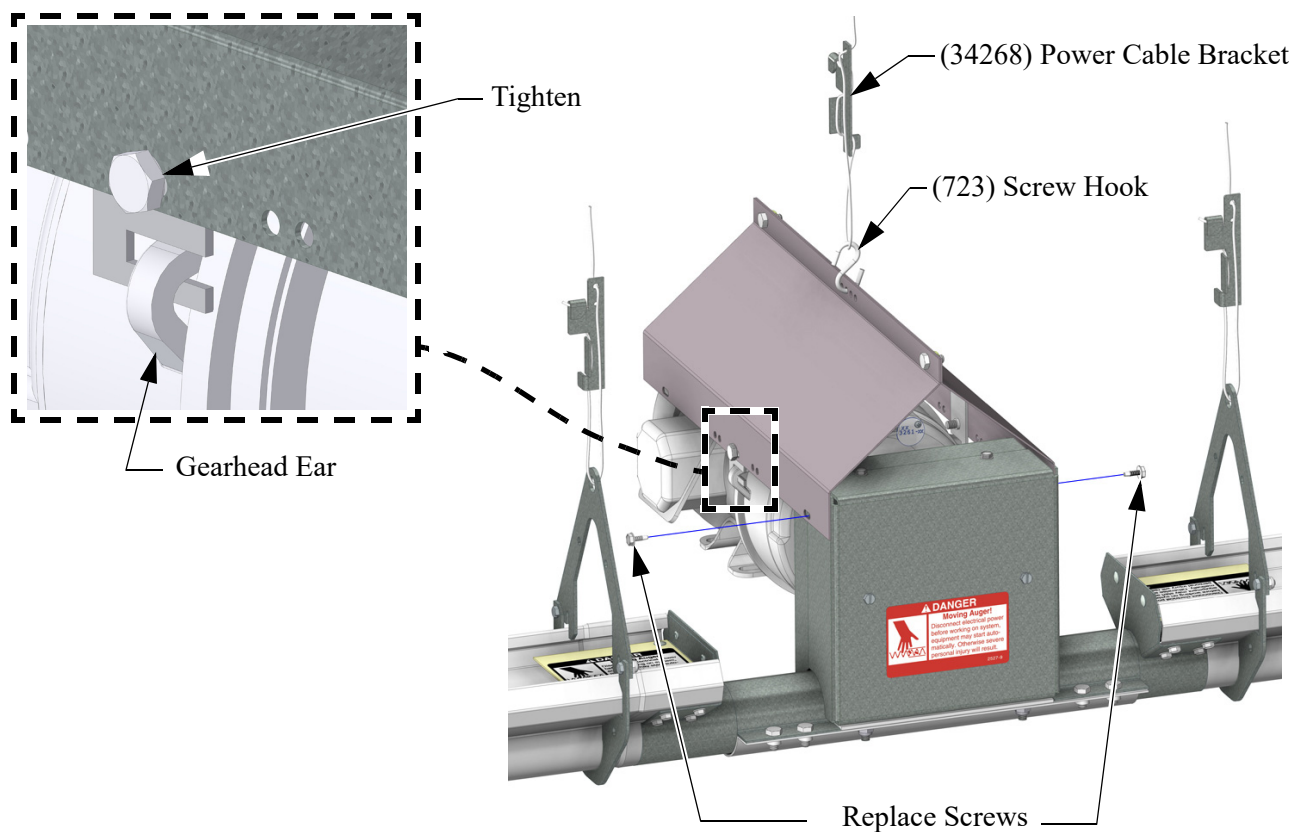

Figure 34.Litter Shield Installation
4. Assemble the Shield Sides on the Power Unit (Figure 34). The Motor Supports slip into the ears on the gearhead.